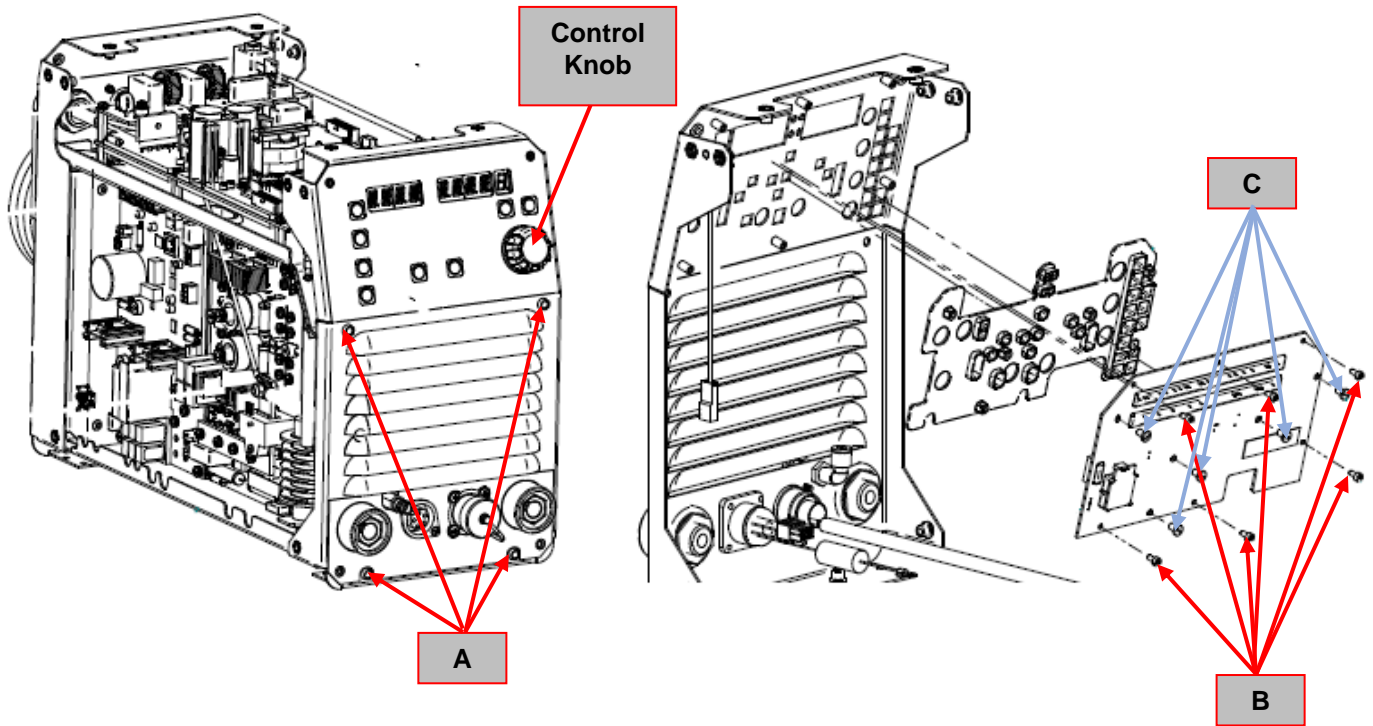

Figure 23
3. Locate the Display board. See **Figure 23**.
4. Remove, using the 8 mm nut driver the 4 screws (**A**) that are fixing the front panel to the machine frame. See **Figure 23**.
6. Using the 2 mm allen wrench remove the control knob. See **Figure 23**.
7. Pull as much as you can the front panel and remove the 6 screws that are fixing the Display board to the front panel, see **Figure 23**.
9. Remove the 5 screws (**C**) that are fixing the light guide to the Display board. See **Figure 23**.